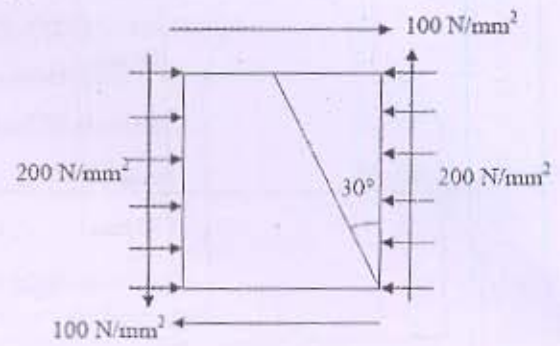

Figure 4
- (c) For an element shown in **Figure 4** find